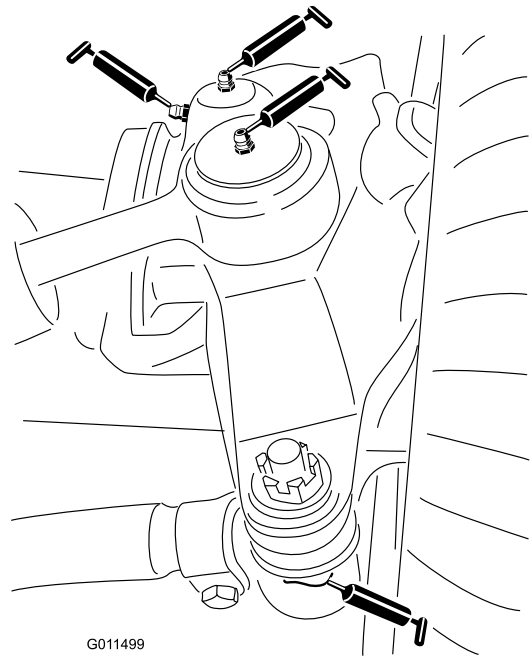

Figure 40
- Steering cylinder ball joints (2) (Figure 40)
- Tie rod ball joints (2) (Figure 40)
- King pin bushings (2) (Figure 40).